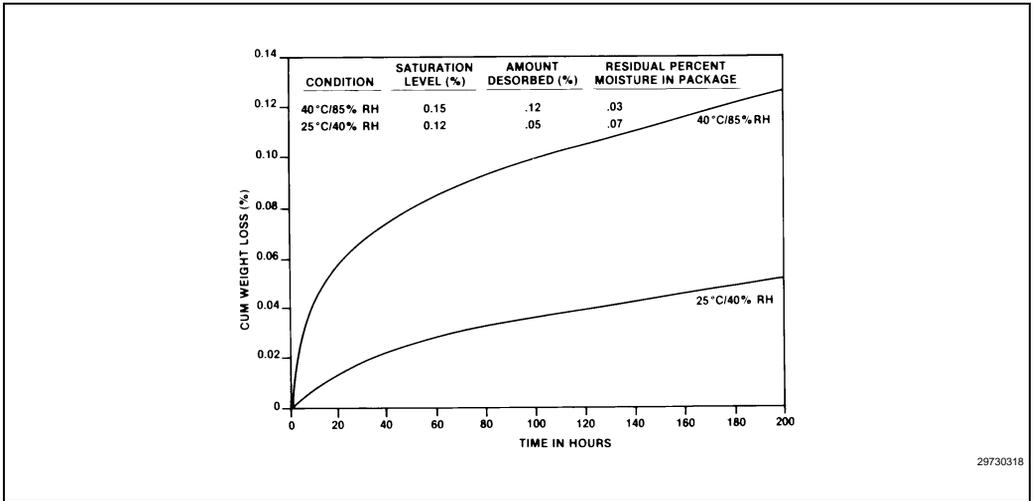

Figure 7-10. Saturated Component Weight Loss at Low Temperature
- **Low Temp Bake.** Intel has also identified a low temperature bake profile. It allows component moisture desorption in the original plastic shipping containers and, thereby, avoids possible damage to component leads that might be introduced through additional handling. The low temperature bake is a 192-hour dwell at 40 °C(+5 °C, -0 °C)/ $\leq 5\%$ RH. Figure 7-10 shows the curves for moisture desorption in these conditions. After 192 hours, saturated components will desorb moisture down to a residual moisture level that will allow ambient exposure, up to the time specified on the label, in environments not more extreme than 30 °C/60%RH before the safe allowable moisture content of the package is exceeded. Note that the temperature of the bake is limited by the thermal stability of the device shipping containers. The shipping containers will not hold dimension at bake temperatures higher than 45 °C (40 °C +5, -0 as indicated).